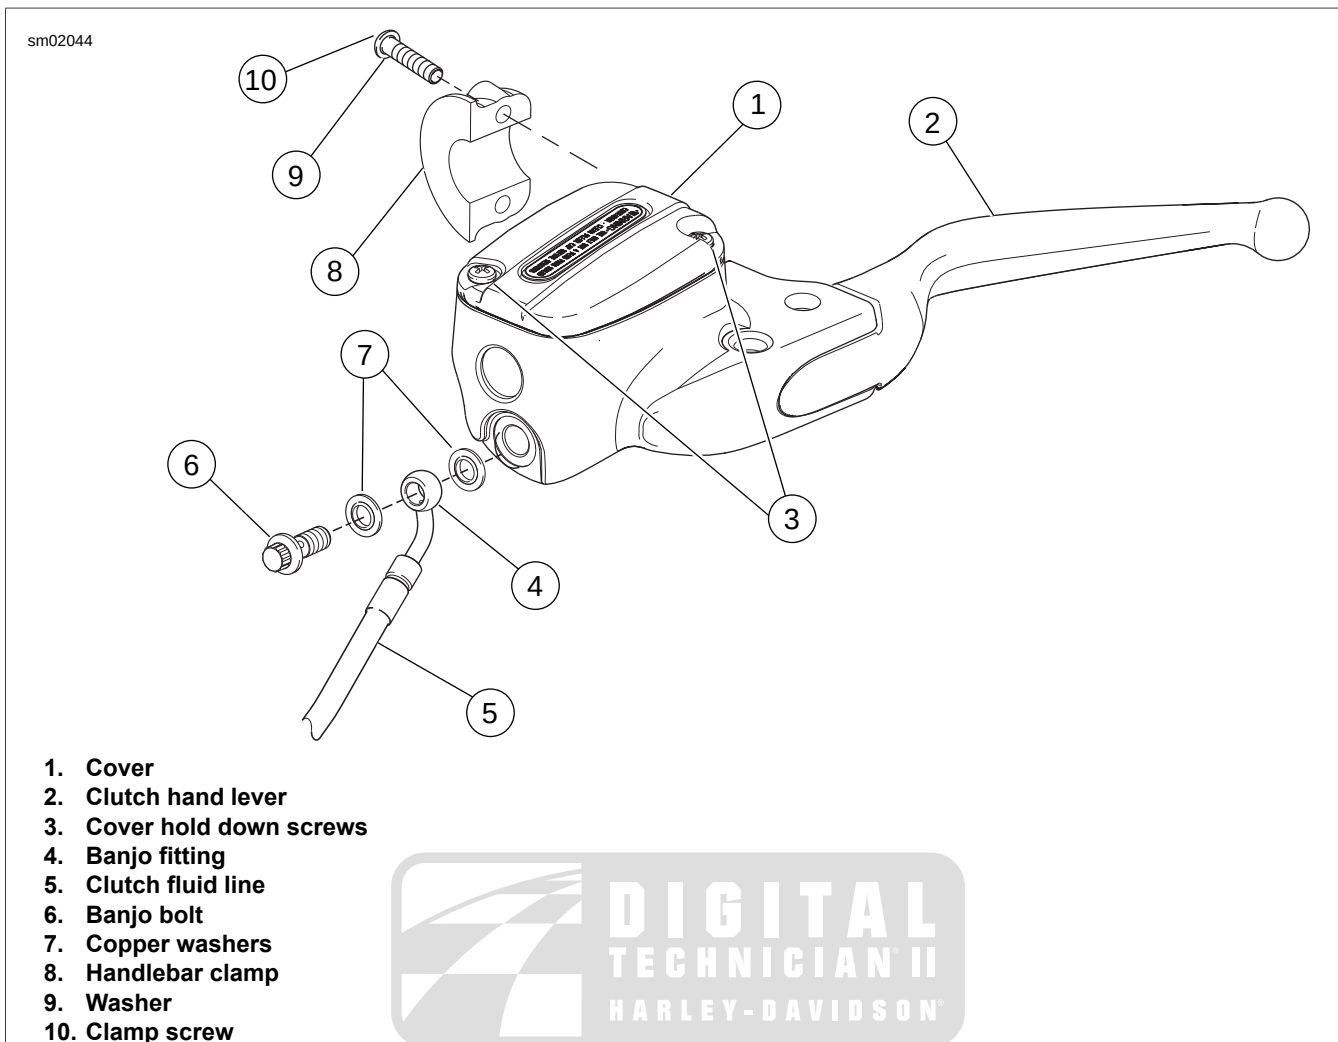

Figure 2-24. Clutch Master Cylinder/Reservoir
3. See Figure 2-24. Loosen, but do not remove, screws (10) with flat washers (9) that detach handlebar clamp (8) from clutch master cylinder/reservoir.
4. Loosen both screws (3) on cover (1) to relieve pressure in master cylinder reservoir.
1. See Figure 2-24. Attach master cylinder/reservoir to handlebars with handlebar clamp (8). Orient lever to rider position. Tighten two clamp screws (10) to 8-9 Nm (71-80 **in-lbs**).
2. Attach banjo fitting (4) of clutch fluid line to master cylinder with **new** copper washers. Install electrical controls.